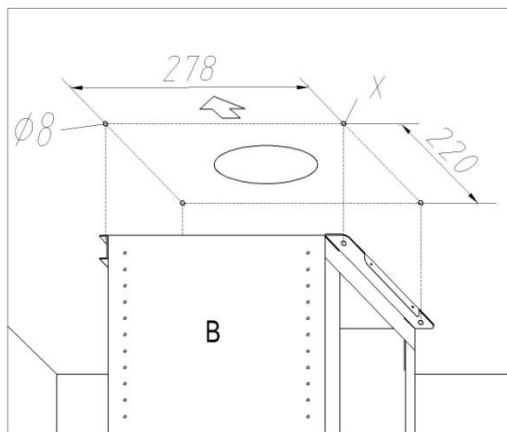

Fig. 2
- Please attention that the arrow is positioned on the same side as the appliance controls. Make 4, Ø8 holes in the ceiling and drive in 3 screws without completely tightening them(Fig2). Pay attention not to insert the screw into the hole marked with an **X** on the hole template (the screws and expansion plugs must be suitable for the type of wall).